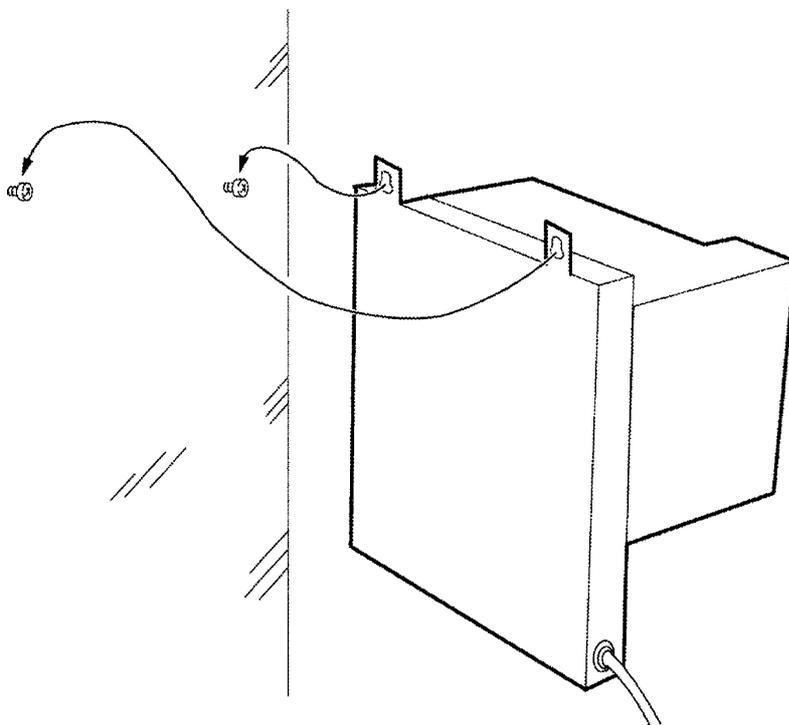

Figure 4-37 Hanging the KSU
2. Hang the KSU as shown in *Figure 4-37 Hanging the KSU*.